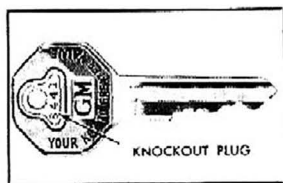

Fig. 15—Key
**Keys.** Two identical (octagonal head) keys are furnished with each truck. These keys are used for locking and unlocking the right door, the package compartment and ignition. The key number is stamped on a "knockout" plug in each key (fig. 15). The dealer and the owner should make a record of this number so that the key can be easily replaced in case it is lost, and then the "knockout" plug should be removed so that unauthorized persons cannot obtain the key number and have a duplicate made.